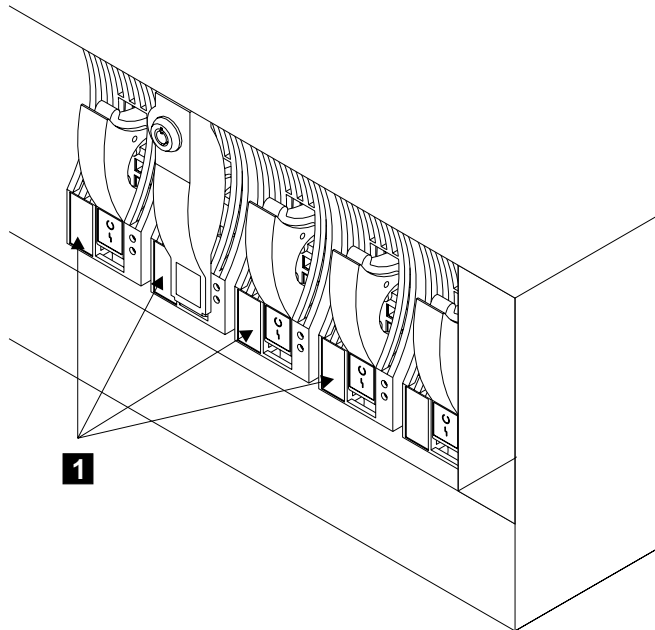

Figure 12. Serial-Number Label on Disk Drive Modules
Step 3. Before you start to remove any modules, note which slots in the 7133 contain disk drive modules, and which contain dummy disk drive modules. This action helps you to reinstall the modules into their correct slots after you have installed the 7133 into the rack. Disk drive modules have a serial-number label **1**; dummy disk drive modules do not (see Figure 12).